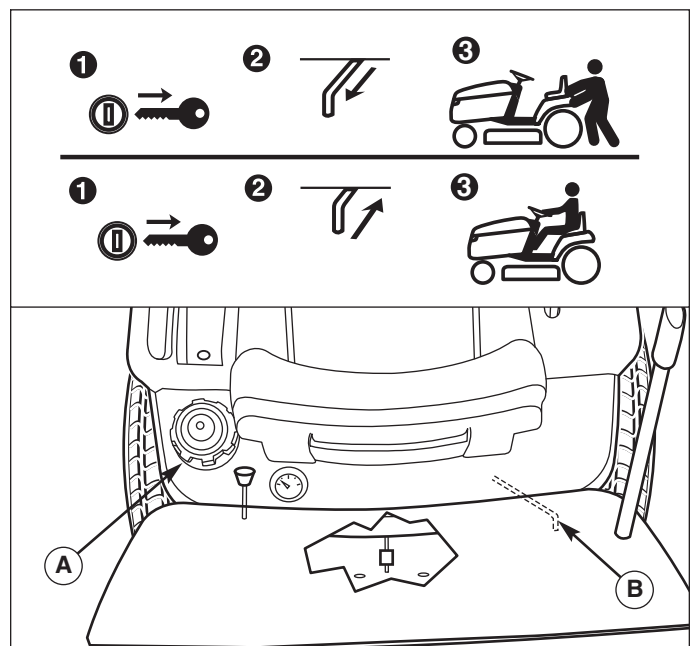

Figure 2. Transmission Release Lever & Fuel Tank
1. Remove the fuel cap (A, Figure 2).
2. Pull the transmission release back approximately 2-1/2" (6 cm) to lock into released position (Figure 2).